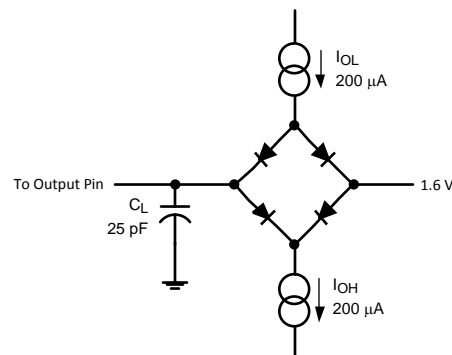

Figure 3. Timing Test Circuit
- (1) Measured with the timing test circuit shown in Figure 3 and defined as the time taken by the output signal to cross 1.0V .
(2) Measured with the timing test circuit shown in Figure 3 and defined as the time taken by the output signal to cross 1.0V or 2.0V .
(3) t_{DIS} is derived from the time taken by the outputs to change by 0.5V with the timing test circuit shown in Figure 3. The measured number is then adjusted to remove the effects of charging or discharging the output capacitance. This means that t_{DIS} is the true bus relinquish time, independent of the bus loading.